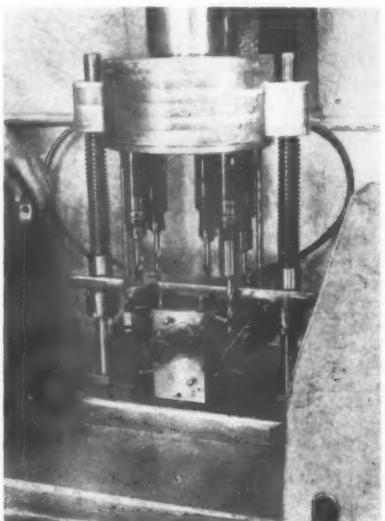
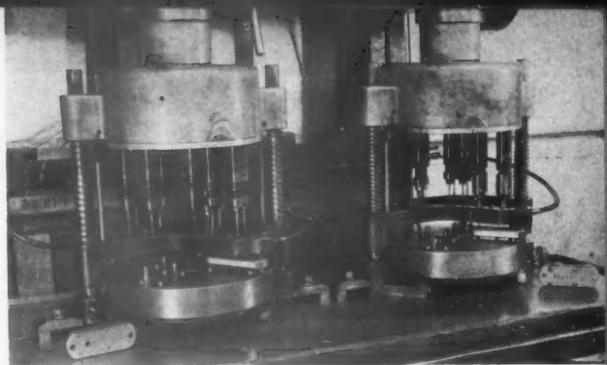

Fig. 1. Single Spindles
Fig. 2. Groups of Spindles
The uppermost of the three elements referred to above is the multiple spindle head (made by several reputable firms throughout this country), which simply distributes, by spur gearing, the drive from the main drill spindle to a number of small drill spindles arranged in the proper positions for the job in hand. This arrangement may be in the simplest case (*Figure 1*) on the corners of a triangle,
square, pentagon, or other regular figure, where the operations are performed on one hole only of the work. *Figure 1* shows the spindles arranged on corners of a hexagon, one spindle omitted for loading position. The second and more complicated arrangement is where groups of spindles are arranged around each of the corners of the triangle, square, or pentagon, and is illustrated in *Figure 2*, which shows a group of spindles arranged about each of the corners of a square, with one group omitted for loading position. The gearing in this head may be laid out for the proper speed for each small spindle according to the tool therein. The head is equipped with bushed lugs for aligning with the lower elements.
The next element beneath the multiple spindle head is the jig bushing plate, which is bushed to slide on the vertical guide pins, and retain a fairly accurate relation to the multiple head, and the work. The bushing plate is the most accurate element, and fulfills two important functions; first, it locks itself to the work carrying plate by means of lock pin bushings, and second, it carries the drill jig bushings which locate the initial work of the drills and reamers. The jig is usually planned so that those operations which involve large chip volume are carried out without hindrance of a jig bushing. For instance in *Figure 1*, there is but one jig bushing in the spotting position, all other operations (in this case drilling by steps a hole $2\frac{3}{4}$ " deep in stainless steel) being carried on in the open. Likewise, in *Figure 2*, the spotting drills and sizing reamers are guided by bushings, but the through drills operate in large holes through the jig plates. A secondary purpose of the jig plate is to distribute coolant by means of internal drilled passages, ending in small nozzles at each drill, and fed by hose from the main pump.
The lowest element of the "merry-go-round" is the work holder, from which this jig gets its name. The work holder has locating points for the work (nicely shown in *Figure 2*), upstanding bullet pins for locking itself to the jig bushing plate, a central pivot, and can whirl merrily on a row of $\frac{3}{4}$ " steel balls tucked away under that smooth skirt shown in *Figure 2*. The steel balls are retained in a turned Vee groove in the base plate. Base plate also carries the two pillar posts.
The work is clamped in *Figure 1* jig by a knurled knob and strap. In *Figure 2*, clamping is automatic on the down feed by reason of the springs on the pillar posts, which urge the jig bushing plate against the work.
The *Figure 1* jig operates as follows: load in empty position; index to No. 1 work position, where large drill (same size as counterbore) spots and drills approximately $\frac{1}{4}$ " deep; index to No. 2 position where tap drill goes in $\frac{3}{4}$ " deeper than spot; index to No. 3 position where counterbore squares out bottom of No. 1 hole; index to No. 4, where tap drill goes in $\frac{3}{4}$ " deeper; index to No. 5 where tap drill completes hole depth. A new work piece is added at each indexing. Results have shown that there is less tendency for a deep drilled hole to wander off line when drilled in stages by *several* drills than if drilled by stages with a *single* drill.
The *Figure 2* jigs operate on a similar cycle, the left hand jig (1) spot and drill body size, (2) drill tap size (3) ream body size; and the right hand jig (1) spot and drill body size (2) ream body size (3) counterbore for head of screw. Work pieces are shown to left and right respectively of the jigs.